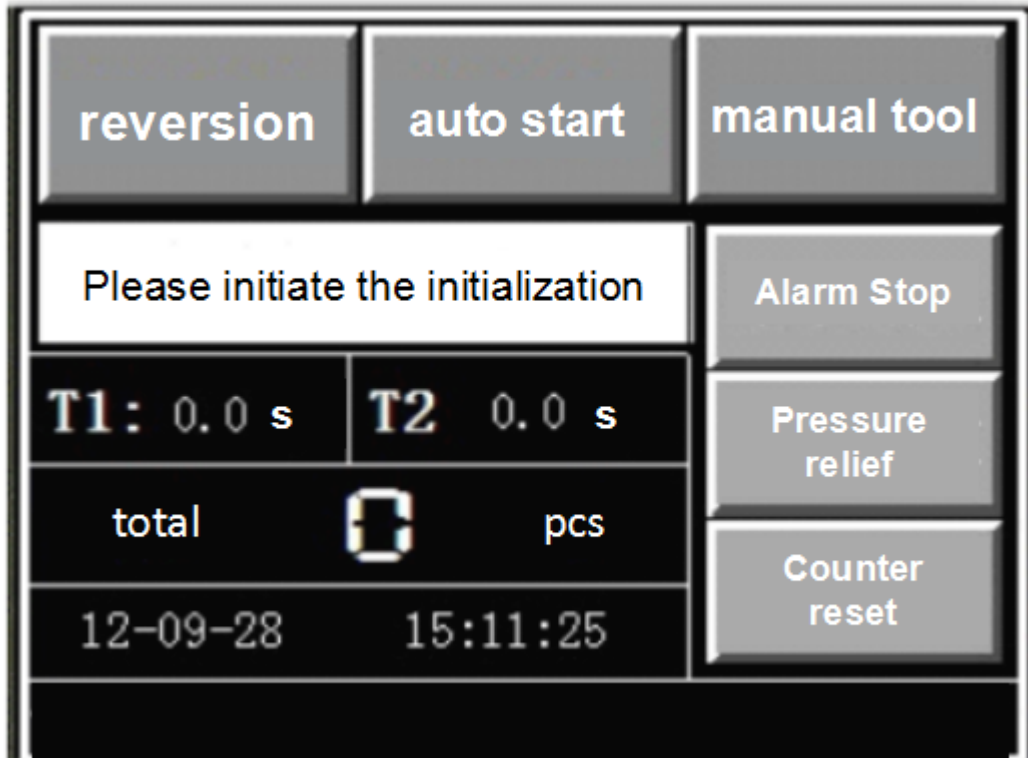

Figure 5.1
1. after the start of the machine , enter the standby state and enter the interface shown in Figure 5.1.